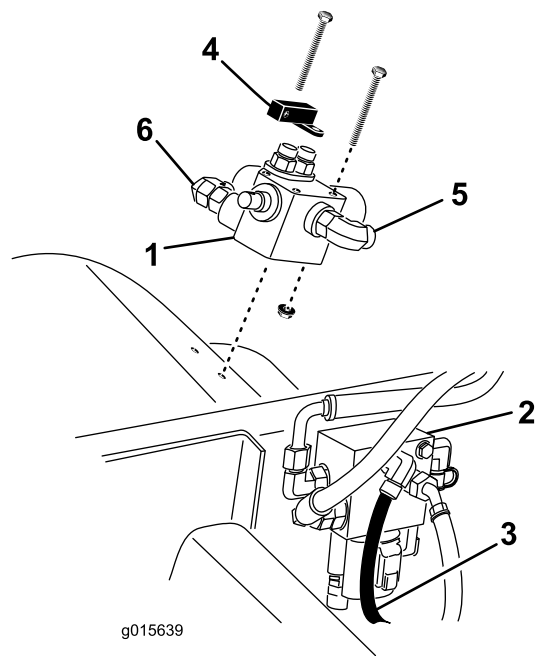

Figure 5
9. Mount the control valve and the pivot lever to the right fender with (3) 1/4 x 2-3/4 inch capscrews and 1/4 flange locknuts as shown in (Figure 5).
10. Place a drain pan under the lift manifold (Figure 5).
11. Disconnect the steering hose (Figure 5), from the upper side port of the lift manifold (hose comes from the steering valve).
12. Connect the 12 inch hose (included in kit) to the disconnected steering hose and to the 90 degree fitting on the operator side of the control valve (Figure 5).
13. Connect the longer hydraulic hose with the straight fittings (included in kit), to the vacated port on the lift manifold and to the 90 degree fitting on the outer side of the control valve (Figure 5).